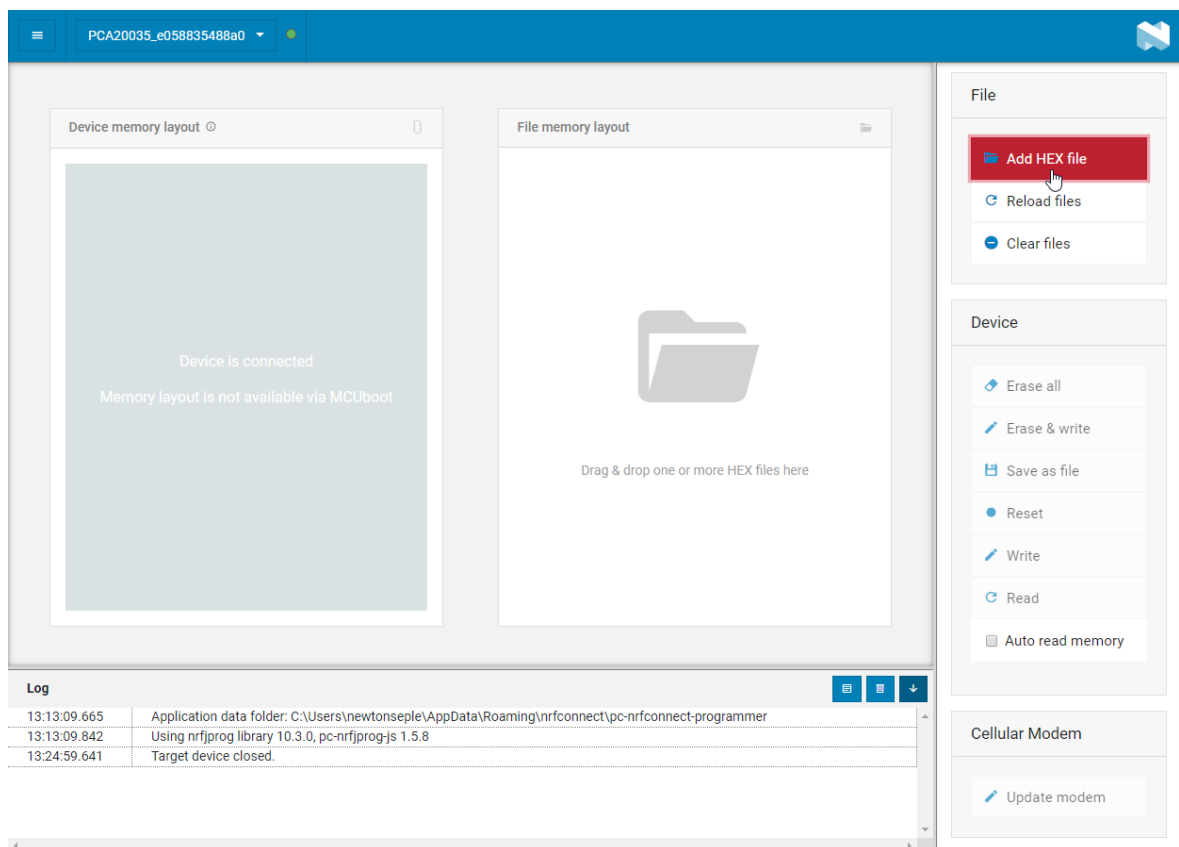

Figure 9: Selecting the firmware image file using Add HEX file option in the nRF Connect Programmer
- Click **Add HEX file** on the right pane (named as **File**) as shown in Figure 9: Selecting the firmware image file using Add HEX file option in the nRF Connect Programmer on page 17.